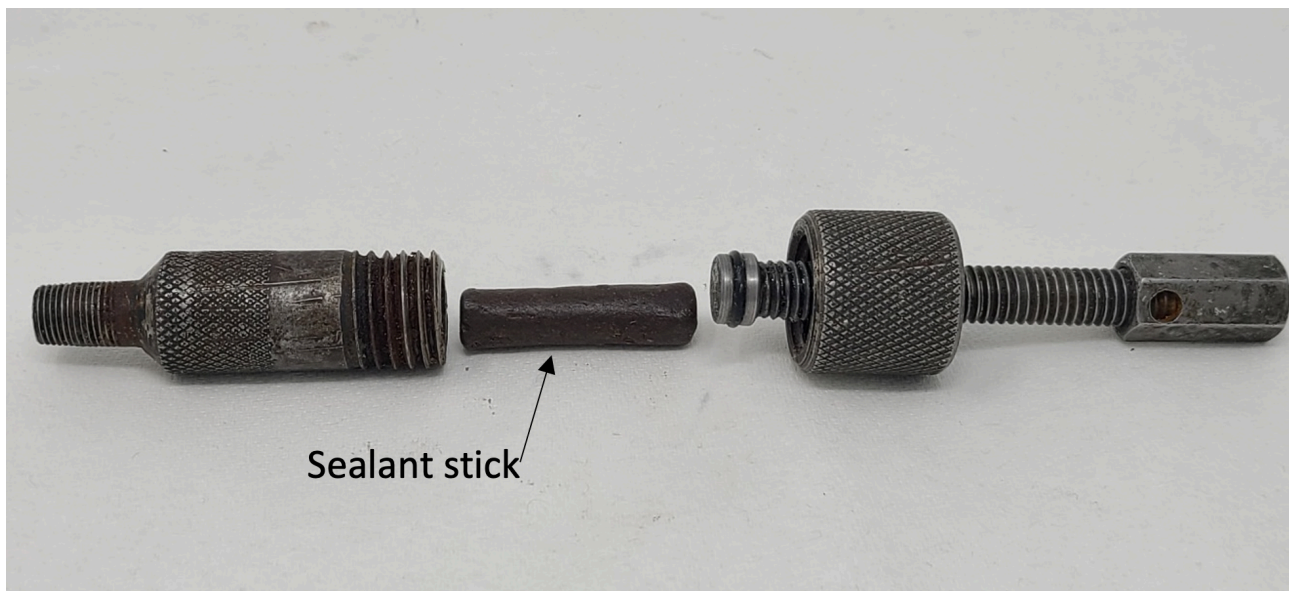

Figure 6. Loading lubrication stick into screw injection tool
Another method of relubrication is to use screw injector tool. A small stick of lubricant is loaded into the tool (Figure 6). When the screw is wound in it exerts a powerful hydraulic force and injects the sealant into the valve.
- Figure 6. “Loading lubrication stick into screw injection tool” by Rod Lidstone is licensed under a CC BY-NC-SA licence (<https://creativecommons.org/licenses/by-nc-sa/4.0/deed.en>).